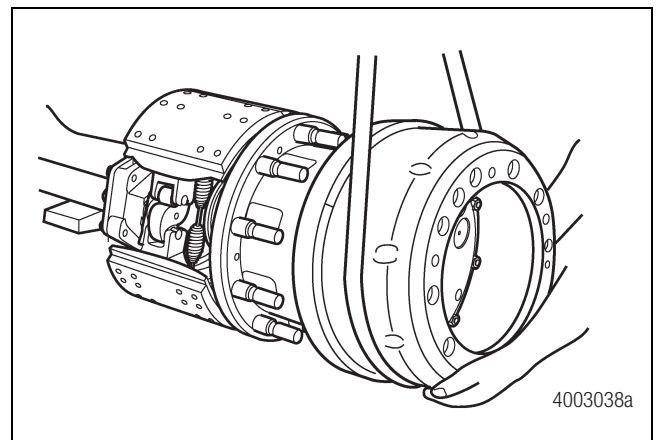

Figure 9.2
5. Use a lifting device to remove the brake drum. Figure 9.2.
1. Use a lifting device to replace the brake drum. When you install hub piloted drums, always install the drum with the pilot in the 12 o'clock position to reduce assembly runout and minimize the possibility of a system vibration. Figure 9.2.